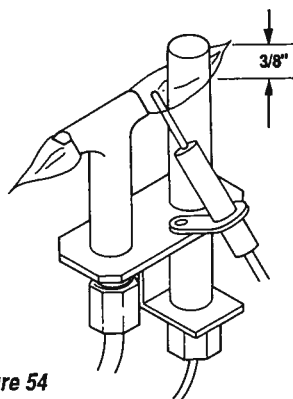

Figure 54
Approximately the top 3/8" at the pilot generator (thermopile) should be engulfed in the pilot flame (Figure 54).
Visually inspect pilot. Brush or blow away any dust or lint accumulations. If pilot orifice is plugged, disassembly may be required to remove any foreign material from orifice or tubing. When appliance is put back in service, check pilot flame patterns with Figure 54.
2. Adjust pilot screw to provide properly sized flame (Figure 54).